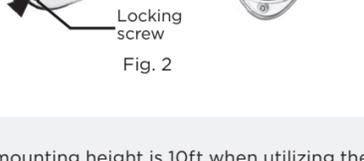

Fig. 2
2. Remove the cover assembly by loosening the locking screw. The cover hinges from the top and lifts out of the location slot. Refer to Fig. 2.